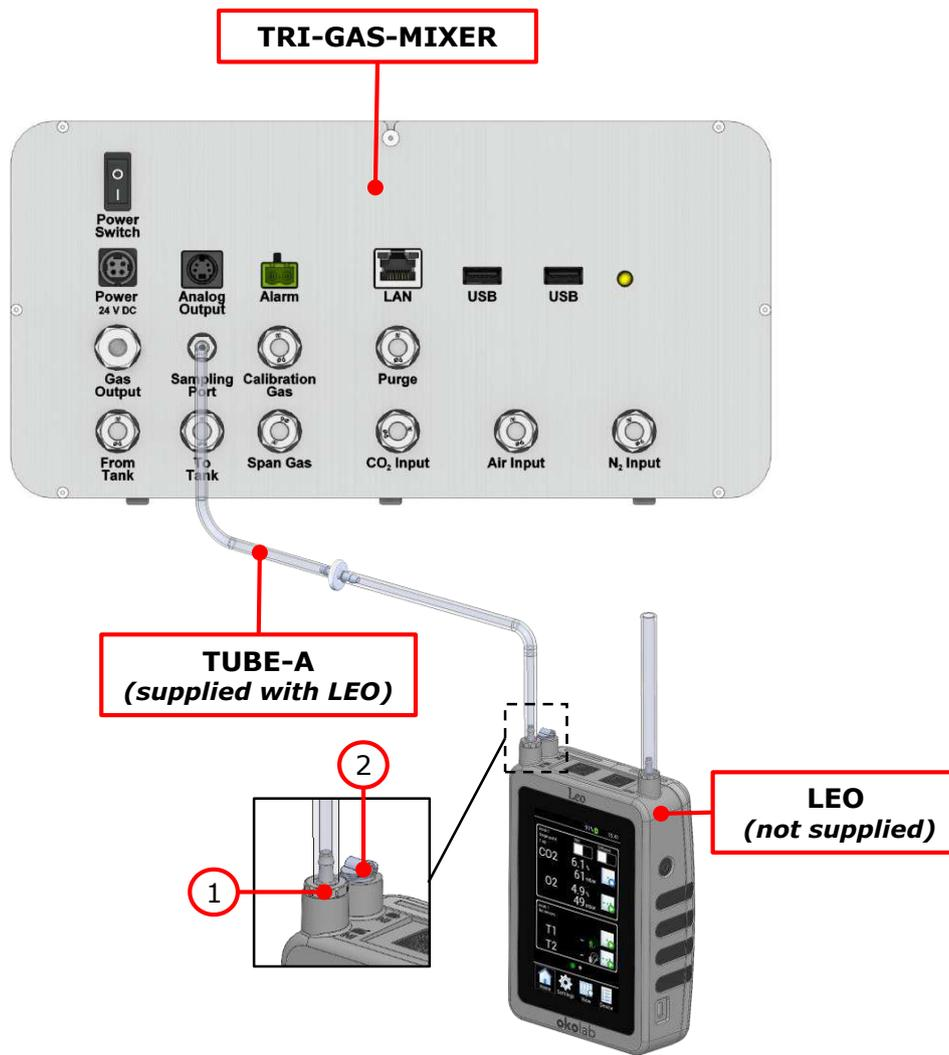

Figure 41. External Gas Meter Connection.
1. Remove the red connector from the TUBE-A (supplied with LEO, Figure 40) and connect the end of the tube to the *Sampling Port* on the rear panel of Tri-Gas-Mixer (see Figure 41).
2. Connect the clear connector of TUBE-A (supplied with LEO, Figure 40) to LEO Gas Inlet port labeled with icon  (1 in Figure 41).
3. Put the cap on LEO Gas Input port labeled with icon  (2 in Figure 41).